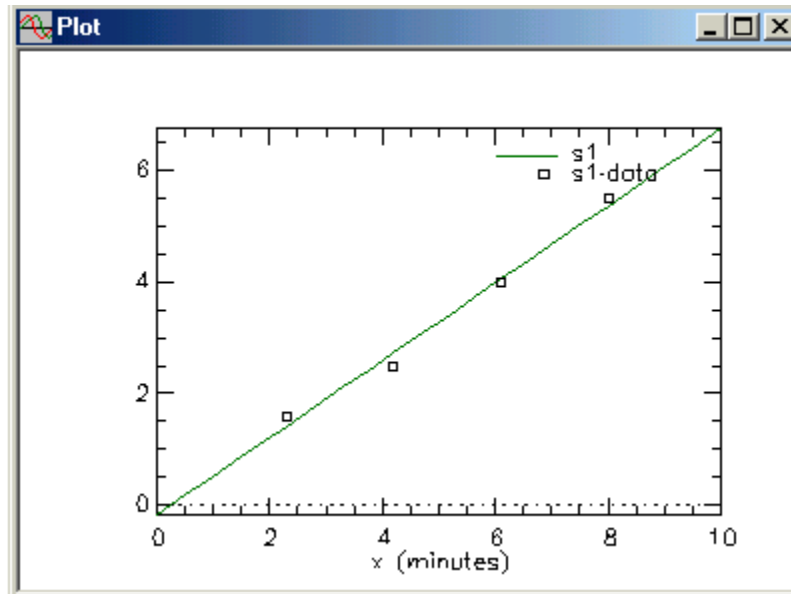

Figure 3
11. To view a plot of the fitted line, click **Plot** on the **Show** menu, or click the **Plot** toolbar button (looks like a small plot). In the left pane, select the $s1 : s1_data$ entry, and click the **Done** button. You should see the plot in Figure 3.